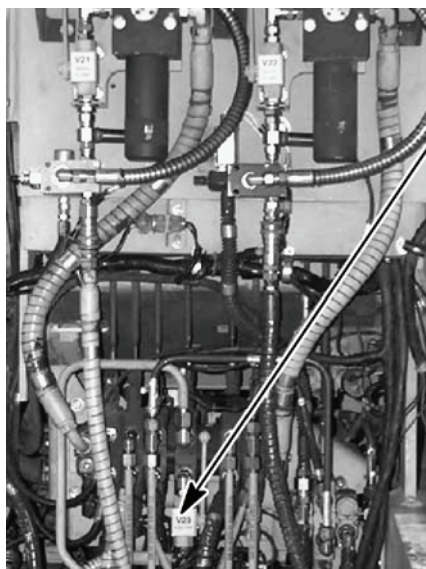

Figure 11. DCV Bank
- Stop engine and relieve hydraulic pressure.; Open ejector inhibit ball valve V23 (Figure 11, item 1) on the DCV bank. Using LINE UP or LINE DOWN button (Figure 12, item 2), select V1 on the HDC display (Figure 12, item 1). Open V1 (Figure 12, item 1) on the HDC display by selecting the CHANGE POSITION button (Figure 12, item 3) on the HDC control box.